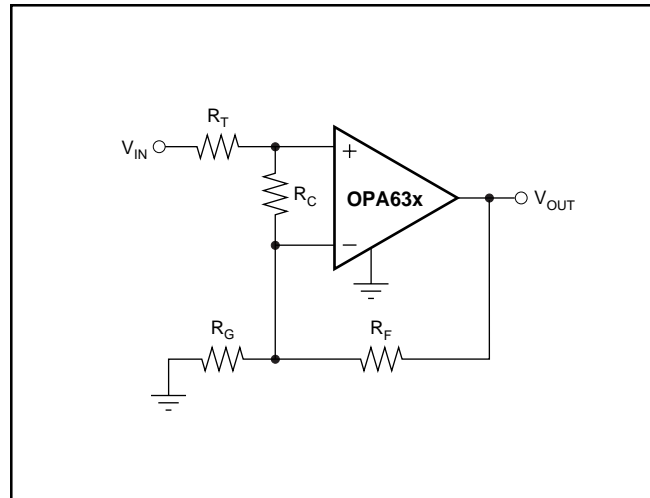

FIGURE 4. Compensated Non-Inverting Amplifier.
Figure 4 shows a non-inverting amplifier that reduces peaking at low gains. The resistor R_C compensates the OPA631 or OPA632 to have higher Noise Gain (NG), which reduces the AC response peaking (typically $5dB$ at $G = +1$ without R_C) without changing the DC gain. V_{IN} needs to be a low impedance source, such as an op amp. The resistor values are low to reduce noise. Using both R_T and R_F helps minimize the impact of parasitic impedances.
Since the OPA631 and OPA632 are voltage feedback op amps, a wide range of resistor values may be used for the feedback and gain setting resistors. The primary limits on these values are set by dynamic range (noise and distortion) and parasitic capacitance considerations. For a non-inverting unity gain follower application, the feedback connection should be made with a 20Ω resistor, not a direct short (see Figure 4 with $R_G = \infty$). This will isolate the inverting input capacitance from the output pin and improve the frequency response flatness. Usually, for $G > 1$ application, the feedback resistor value should be between 200Ω and $1.5k\Omega$. Below 200Ω , the feedback network will present additional output loading which can degrade the harmonic distortion performance. Above $1.5k\Omega$, the typical parasitic capacitance (approximately $0.2pF$) across the feedback resistor may cause unintentional band-limiting in the amplifier response.
The criterion for setting this R_S resistor is a maximum bandwidth, flat frequency response at the load. For a gain of +2, the frequency response at the output pin is already slightly peaked without the capacitive load, requiring relatively high values of R_S to flatten the response at the load. Increasing the noise gain will also reduce the peaking (see Figure 4).